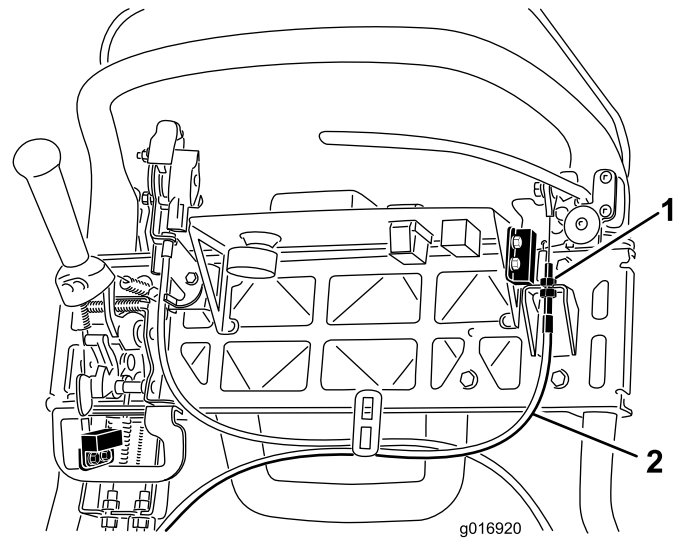

Figure 40
3. To increase the cable tension, loosen the upper cable jam nut and tighten the lower cable jam nut (Figure 40) until a force of 156 N (35 lb) applied to the brake lever handle, is required to release the parking brake latch. Do not over adjust, or the brake band may drag.